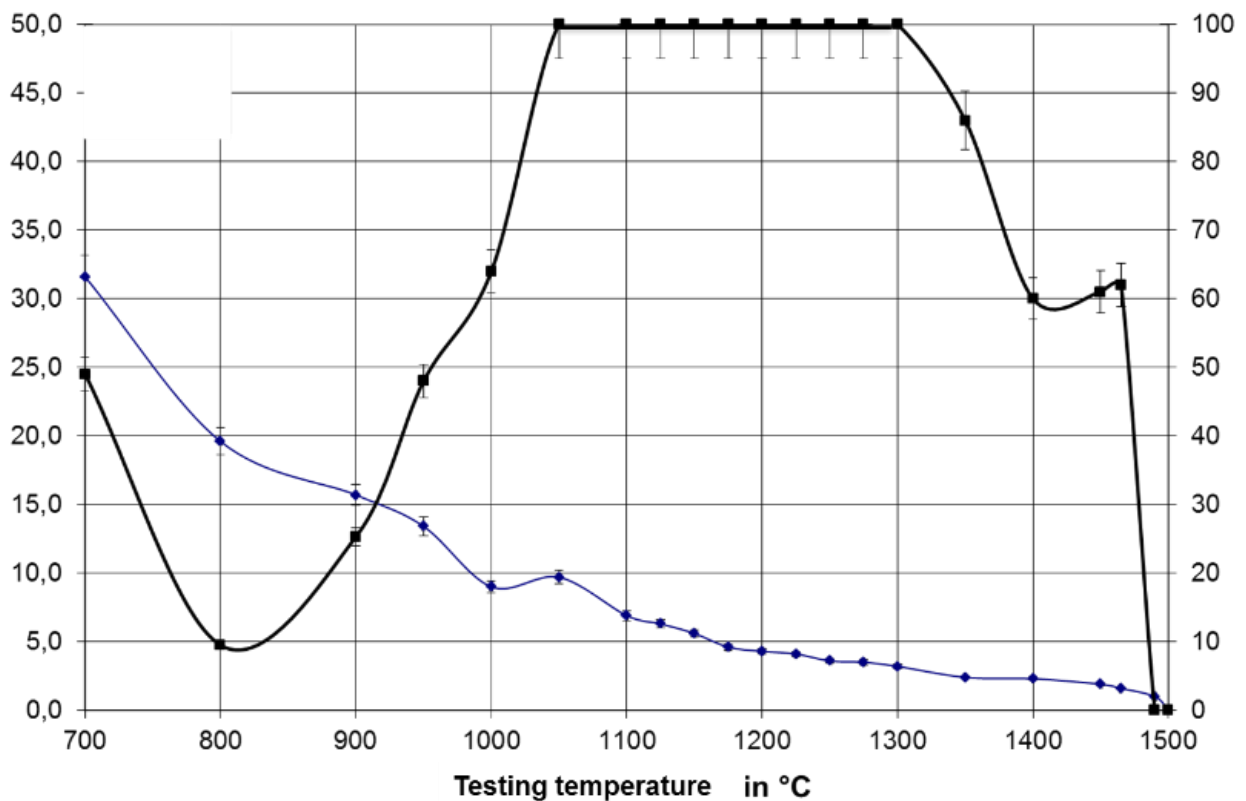
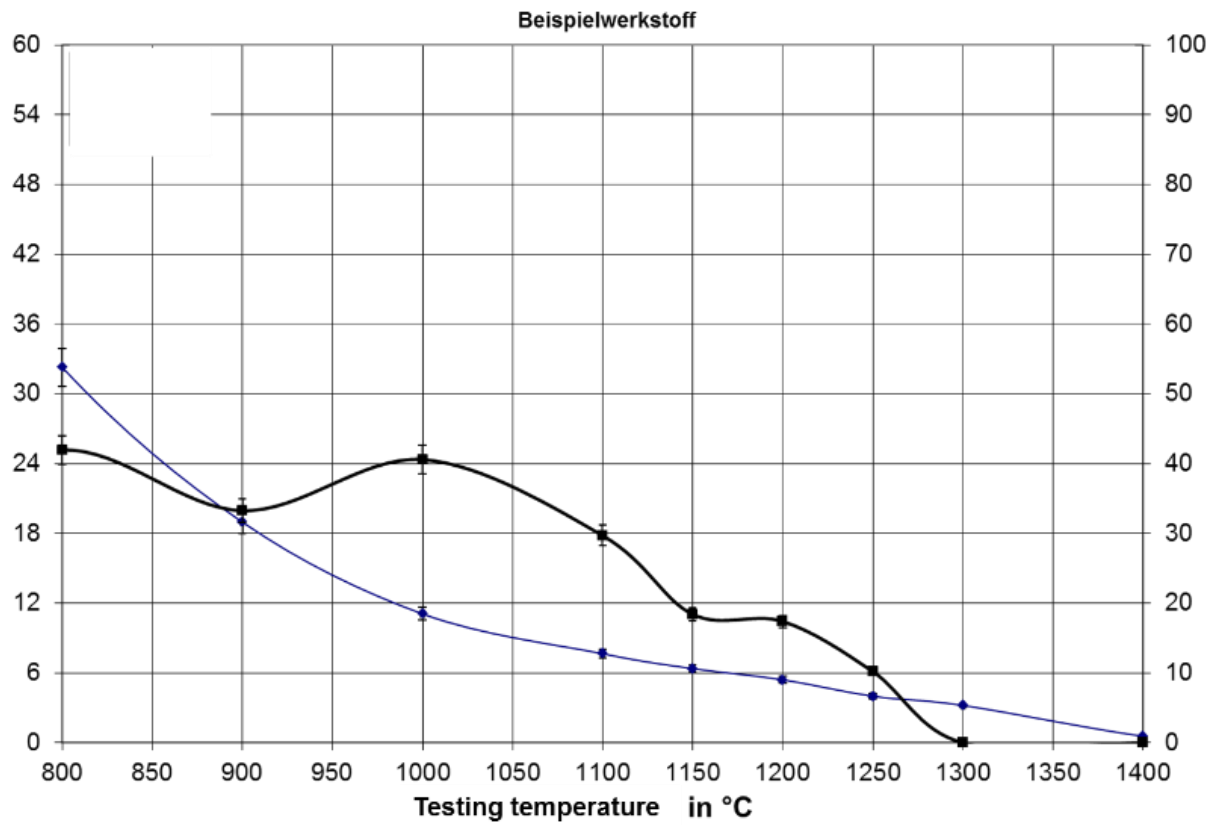

Figure 1: Material A
Figure 2: Material B
- a) Figure 1 and Figure 2 show the mechanical properties as a function of the testing temperature determined from several hot tensile tests for two different steels. Label both Y-Axes for both figures. Which material is more suitable for strip casting? Explain your choice briefly. (3 Points)